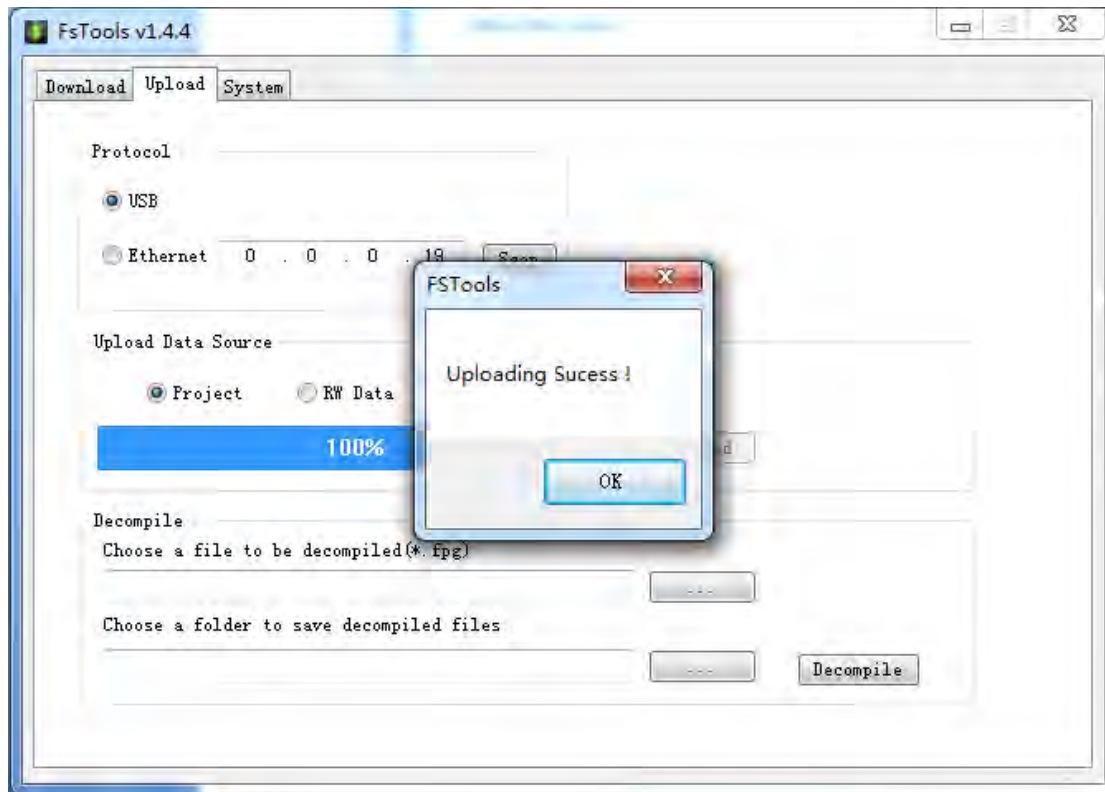

Fig. 24
23. When the uploading operation is finished, the “Uploading Success!” dialog box pops up, as shown in Fig. 24. Then click the “OK” button.